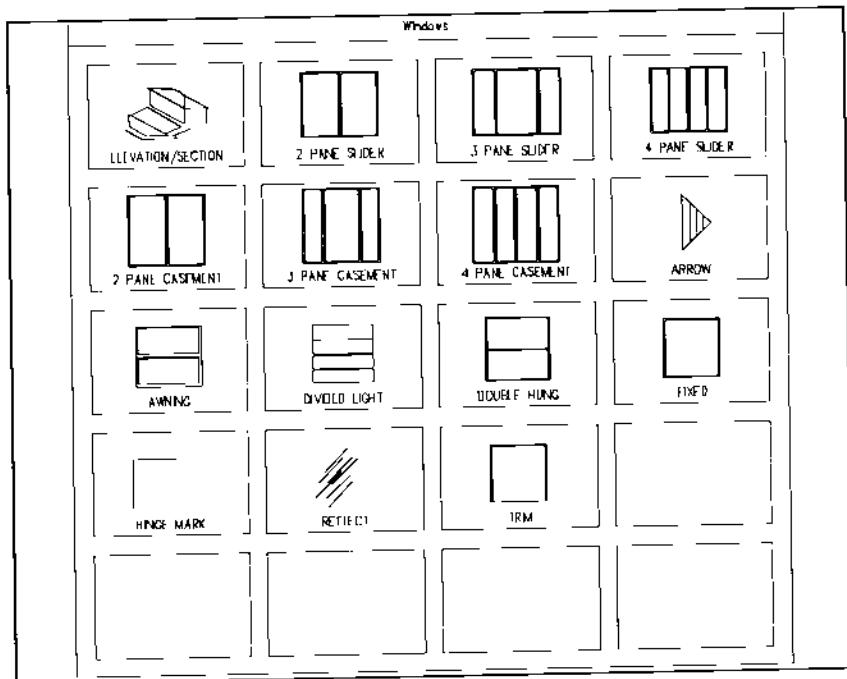
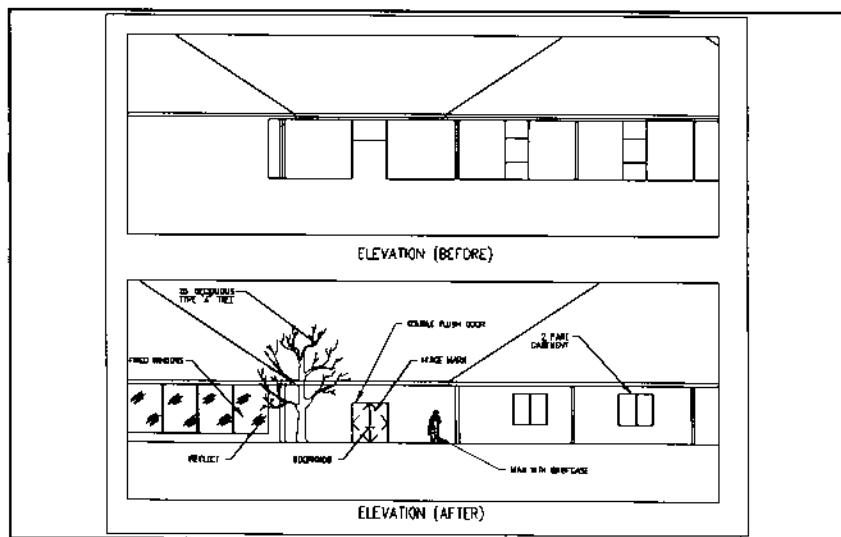

Figure 11.
Figure 14.
- Figure 14 shows the draft elevation *before* and *after* adding Windows, a Door, People, and other details.
- The casement windows in Figure 14 are selected from the Windows icon menu shown previously in Figure 3.
- Select the 2 Pane Casement command shown in Figure 11 to draw the casement window shown in Figure 14.